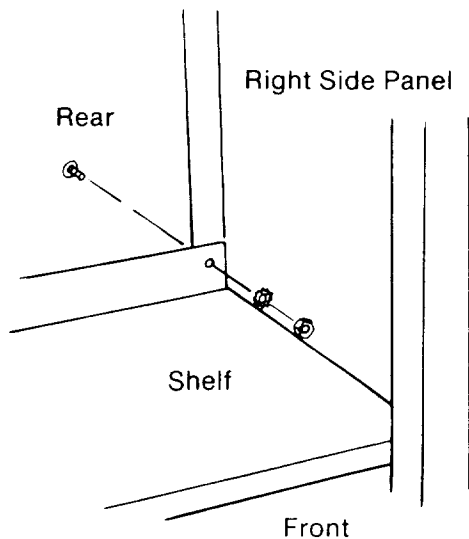

Fig. 20
23. Put a truss head bolt through the hole at the back, right corner of the *shelf*. This hold goes through the *shelf* and the *right side panel*. (Figure 20)